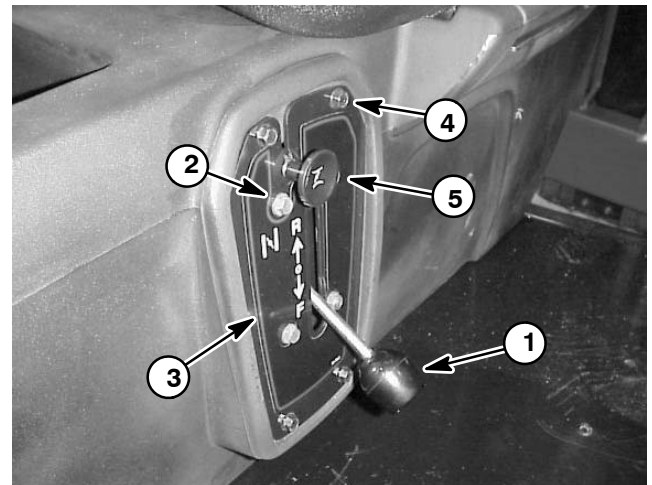

Figure 17
4. Unscrew knob from the shift lever. Remove four short cap screws securing the shift plate to the shift bracket (Fig. 17).
5. Remove four long cap screws securing the shift plate to the seat base (Fig. 17). Separate shift bracket from the choke cable and seat base.
4. Position choke cable and shift plate to shift bracket making sure to capture cable flange. Secure shift plate to shift bracket with four short cap screws. Screw knob onto the shift lever (Fig. 17).
5. Position shift plate with shift bracket to the seat base. Secure shift plate to seat base with 4 long cap screws (Fig. 17).